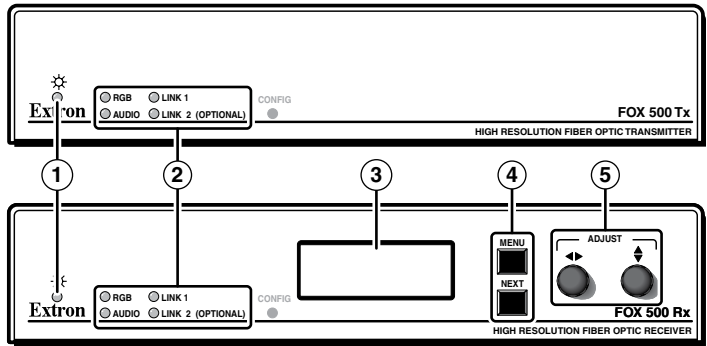

Figure 3-1 — FOX 500
NOTE Figure 3-1 shows FOX 500 (RGB) units. The FOX 500 DVI units are similar, with the exception that the Signal Monitoring "RGB" LED is labeled "DVI".
Power is automatically applied when the power cord is connected to an AC source. When AC power is applied, both units perform self-tests. When the self-test completes satisfactorily, both units' signal monitoring LEDs (item ② on figure 3-1) light as appropriate for the connections. The receiver's LCD (shown at right) displays the model (D indicates DVI; MM and SM indicate the transmission mode), horizontal input rates (in kHz) (or No Input), and vertical input rate (in Hz).